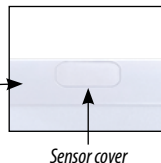

Figure 2
- Pull out wires with quick connector from frame and connect sensor (Figure 2).
- Pull wires with quick connector from driver and connect sensor (Figure 2).